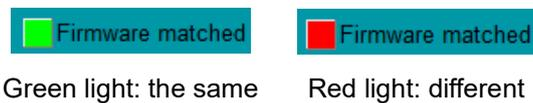

Figure 7.2 Status light of **Firmware matched**
- (3) Ensure the status light of **Firmware matched** lights up in green, as figure 7.2 shows.